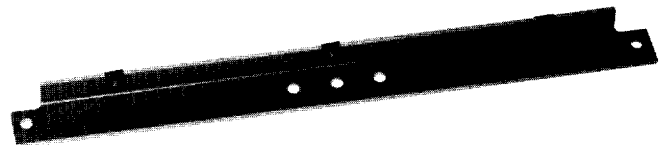

Fig. 18 Shutter Angle
- (a) Mount shutter angles (Fig. 18) on right and left side, parallel to datum "E", with the front surface to be  $11.00$ " ( $279.40$ mm) in front of datum "E", and  $15.875$ " ( $403.226$ mm) behind datum "B".
- (b) Use three (3) .25" x .75" (6.35mm x 19.05mm) self tapping screws with .25" (6.35mm) flat washers on right and left side of compartment. See 0144D2915 sheet 8 for mounting hole locations.